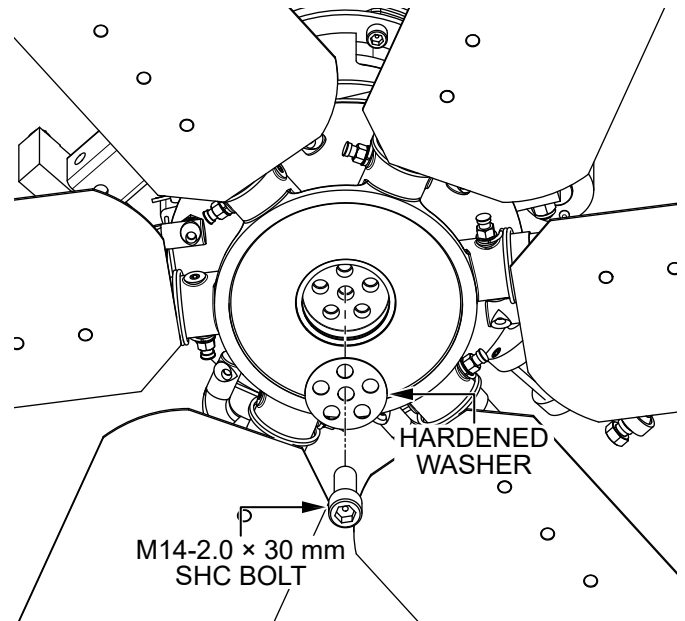

Figure 57. Install New Center Bolt And Washer
7. Install the new **M14-2.0 × 30 mm SHC bolt** in the center position along with a **new hardened washer** as shown in Figure 57. Torque the center bolt to 40 lbf·ft (54.2 N·m).